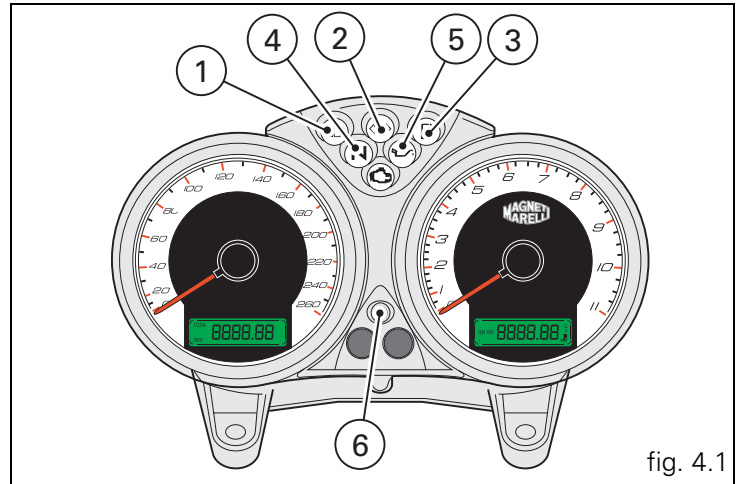

fig. 4.1
## Instrument panel (fig. 4.1)
In the event of faults in the immobilizer system, the following procedure makes it possible to disable the "engine lock" function, which is indicated by the yellow-amber EOBD warning light (7, fig. 4.1).
1) Turn the key to ON, fully open the throttle and hold it open. The EOBD warning light (7, fig. 4.1) goes off after the pre-set time of 8 seconds.
4) Count a number of flashes of the EOBD (7, fig. 4.1) light equal to the first number of the secret code.
1) if the code is recognized, the warning light (6, fig. 4.1) on the instrument panel flashes briefly; the protection system has recognized the code and disables the engine lock.
2) If either the warning light (6, fig. 4.1) or the EOBD light (7, fig. 4.1) remain lit, the code has not been recognized. In this case, it is advisable to turn the ignition key back to OFF and then to ON again. If the engine still does not start, try using another black key.